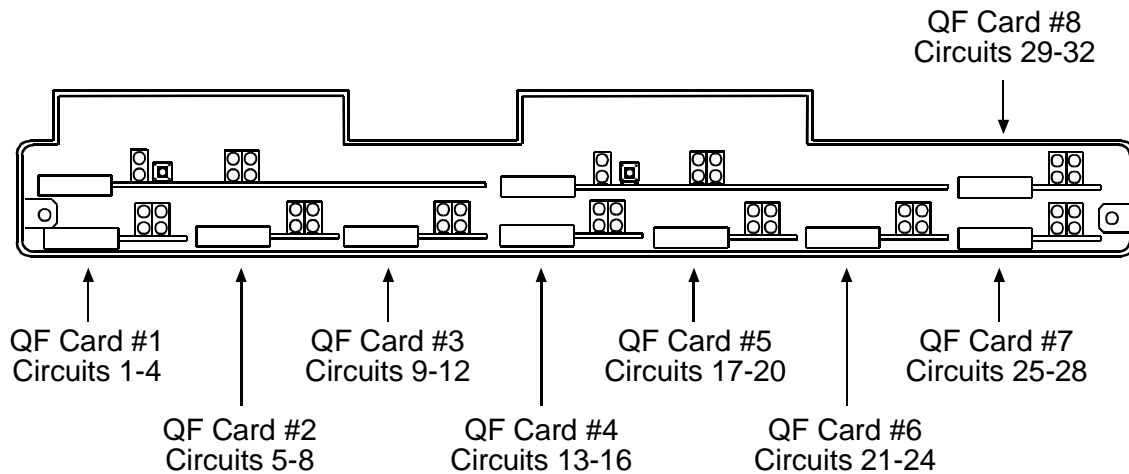
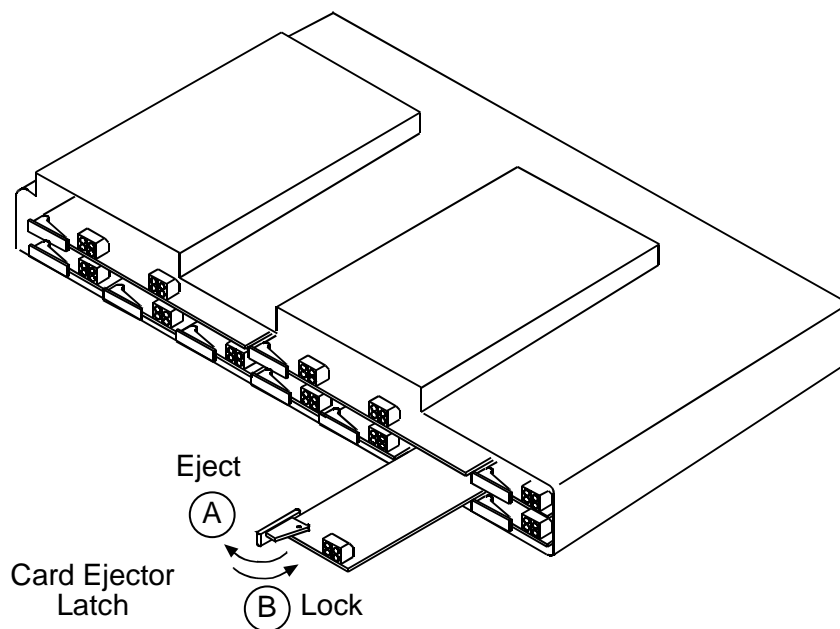

Figure 6-38. Location of Quad T1 Framer Cards
Figure 6-39. Installing Quad T1 Framer Card
NOTE: Quad T1 Framer (QF) cards are typically installed in sequential order, from 1 to 8. Locate next available Quad T1 Framer card slot (see Figure 6-38). Figure 6-39 shows installation of QF card #6.
1. Locate card slot in which to install Quad T1 Framer card (see Figure 6-38).
2. Remove new QF card from antistatic wrapper and straighten card ejector latch (see A in Figure 6-39).
4. Press card ejector latch in toward center of card (see B in Figure 6-39) to secure card in card slot.